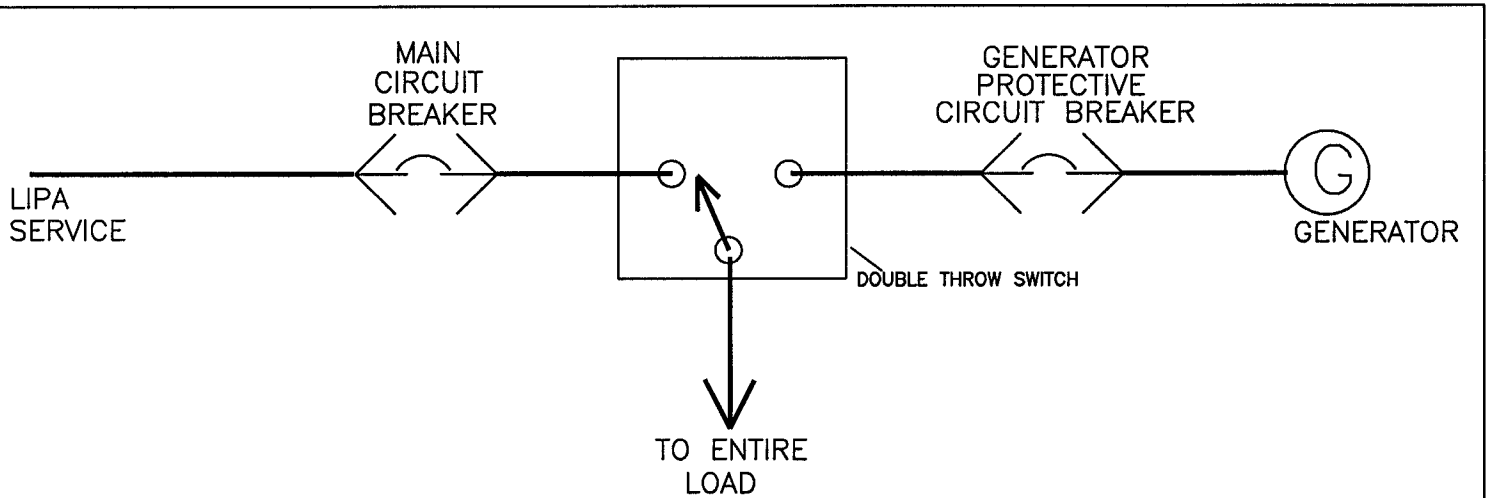

FIG. 1: STANDBY GENERATOR FOR ENTIRE LOAD.
2. SERVICE CONNECTIONS LOCATED ABOVE GARAGE OR OTHER BUILDING EXTENSION AS REPRESENTED IN FIGURE 1 ARE NOT ACCEPTABLE BECAUSE THE SERVICE CONNECTION CAN NOT BE DIRECTLY REACHED FROM A LADDER PLACED ON THE GROUND.